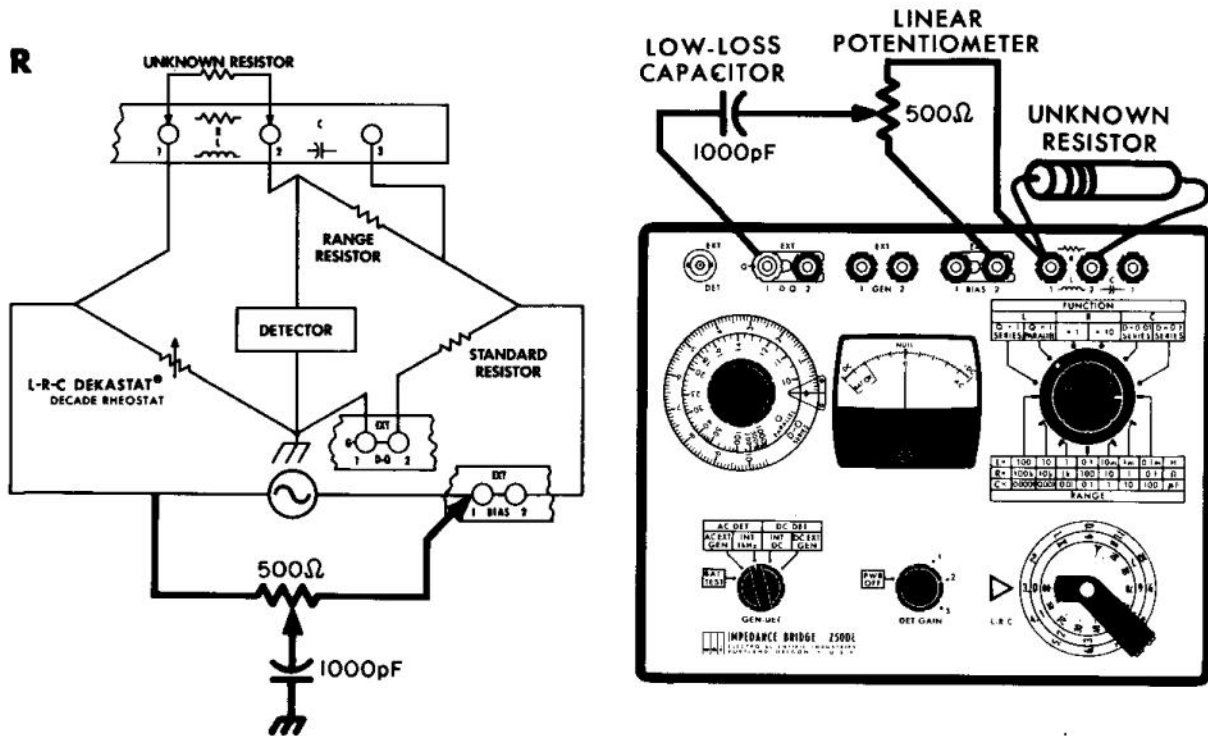

Figure 3-2. AC Resistance Measurement
The capacitor and potentiometer shown connected in Figure 3-2 compensate for series inductance or parallel capacitance. It is impossible to separate the correction for the unknown resistance from the correction for the rest of the bridge circuit.
8. If a null cannot be reached, connect potentiometer and capacitor to the terminals as shown in Figure 3-2.